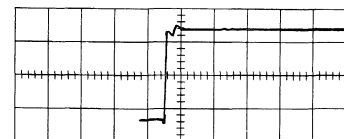

Fig. 7-3 Effect of defective driver-stage tubes, 0.2 μ sec/cm.
- 7.1.3.1 Driver Stage Check: Examine the waveform for a sharp dip immediately following the leading edge (See Fig 7-3), indicating possible defect in driver-stage tubes. Adjust line voltage to 105 v for 10-15 seconds, then to 125 v. If the "notch" appears to change amplitude with changing line voltage, try replacing the driver stage tubes (in early instruments, V1050 and V1052; in later instruments above s/n 9291, V1033 and V1043). Return line voltage to 117 v.
- 7.1.3.2 Input Stage Check: Reduce sweep speed to 0.5 μ sec/cm. Examine waveform for slope in first cm following leading edge (Fig. 7-3). Check for effect of line-voltage change on slope. If line-voltage affects slope, try replacing input amplifier tubes (6AW8's or 12BY7A's) with aged and checked tubes from same subgroup. If tubes are replaced, repeat Step 7.1.